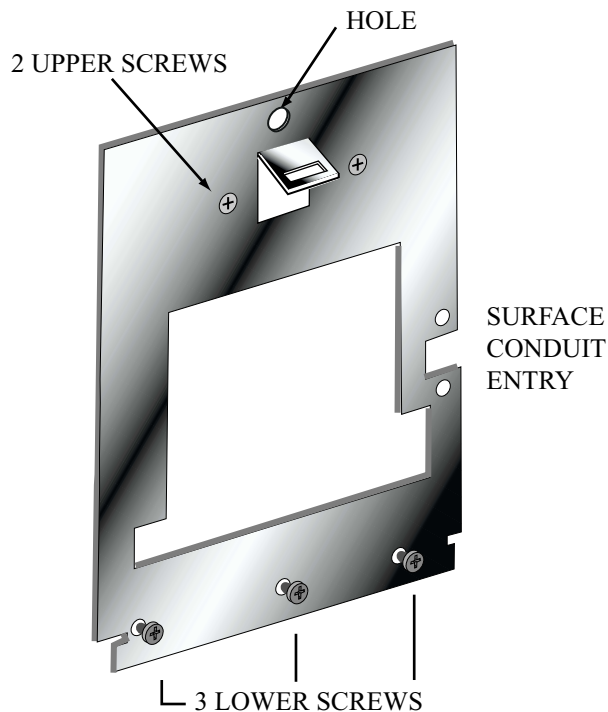

Figure 3-1: Wall Plate
- Up to 32 Hand Readers can be linked together on a 2-wire RS-485 or 4-wire RS-422 network (see Figure 3-1).
1. Remove the wall plate from the packing carton. Refer to Figure 3-1 for all wall plate references in the following section.